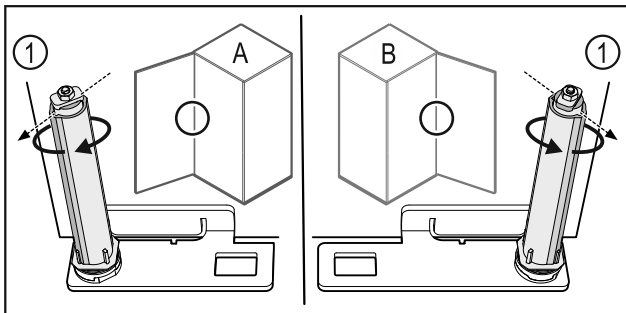

Fig. 51 Left-hinged (A) / Right-hinged (B)
- ▶ Turn the closing system against the resistance until the bar of the closing system Fig. 51 (1) points outwards.